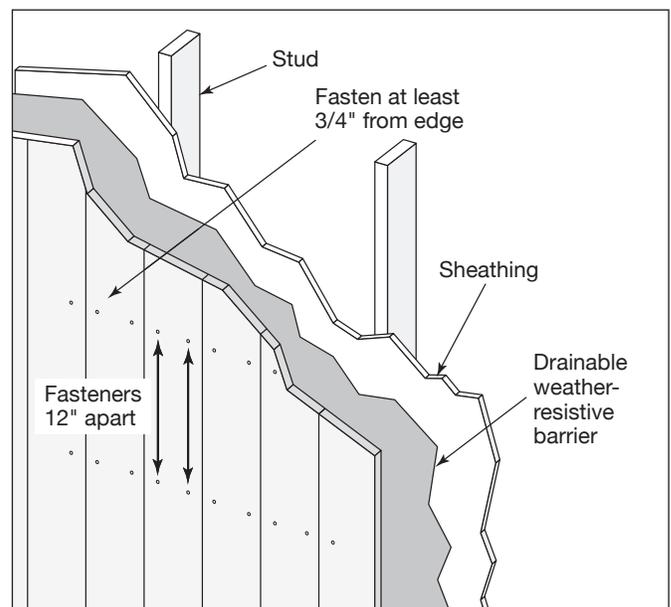

Fig. 22
- Fasten each piece of siding through the face no less than 3/4" from the edge and no more than 12" along the length of both sides of the siding (**Fig. 22**)